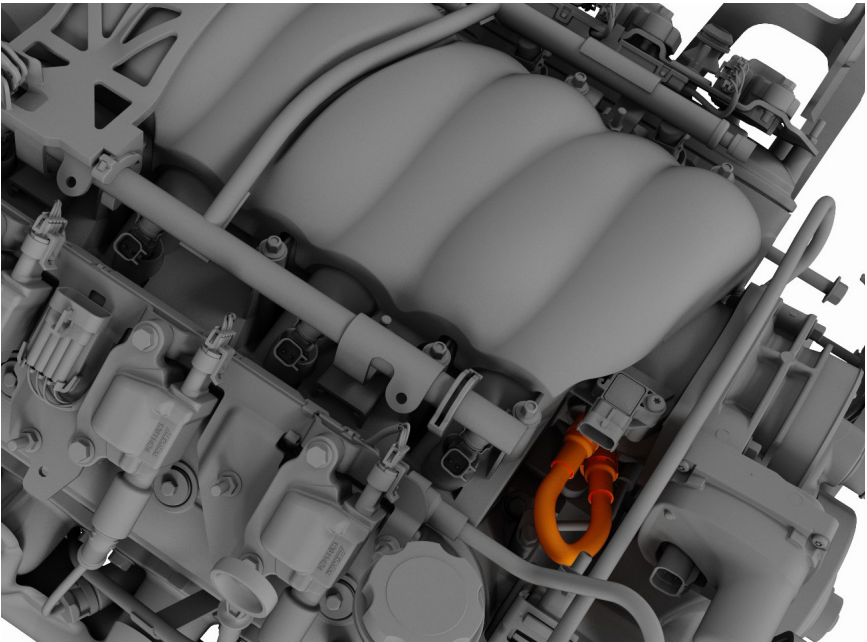

Figure 1 - PCV Hose Design for LS3
- Factory PCV hose designs are different for LS3 and L76/L77 engines, as shown in Figure 1 and Figure 2
4. Refer to Figure 1 and Figure 2 then remove the original PCV hose: